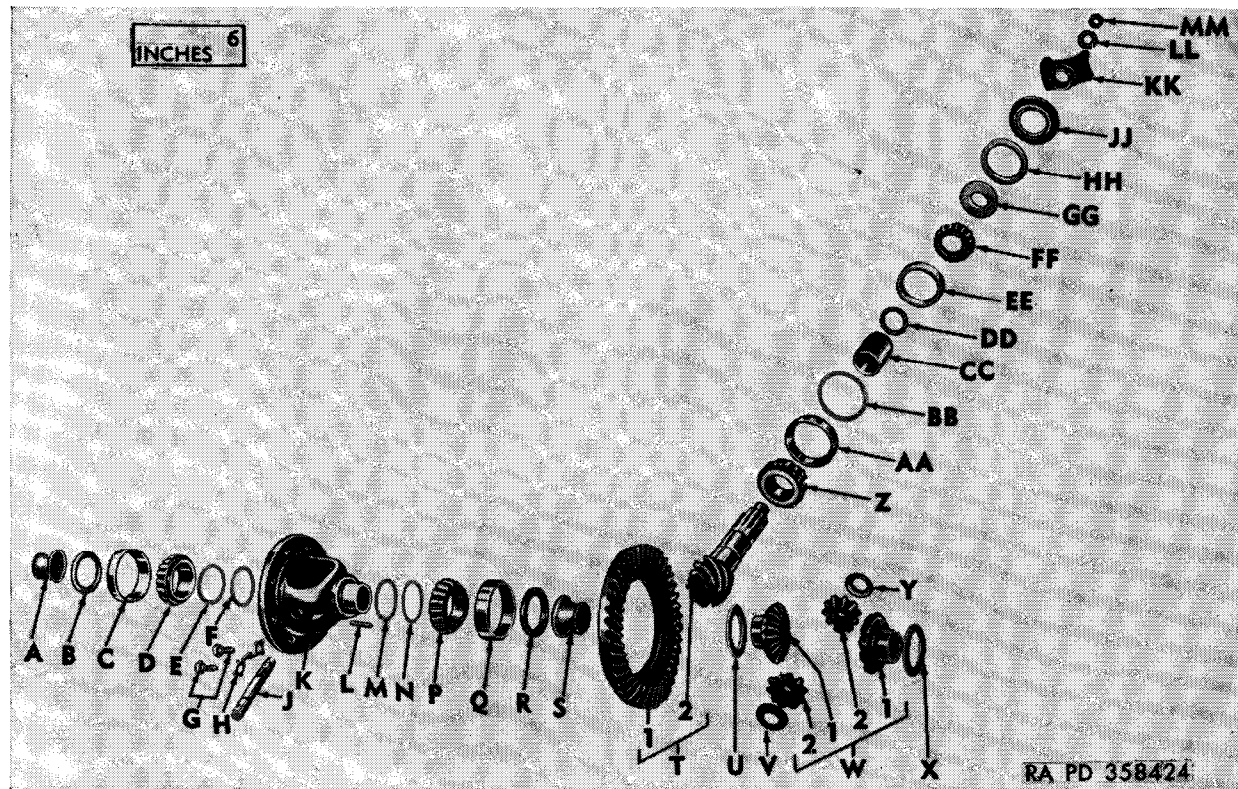

Figure 65. Differential assembly—exploded view.
a. Remove Differential Bevel Pinions and Side Gears (fig. 65). Place the differential case assembly in a vise equipped with soft-metal or
b. *Remove Drive Gear From Differential Case* (fig. 65). Bend the ears of the drive gear screw lock plates (H) off the axle drive gear screws (G). Remove the axle drive gear screws (G) that secure the